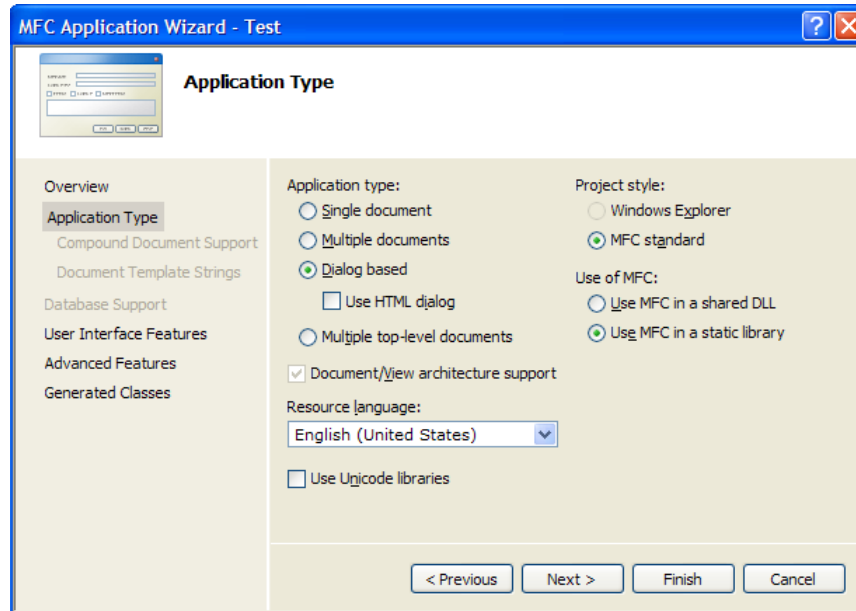

Figure 14. Visual Studio Wizard
1. Go to `Files>New>Project> Visual C++>MFC>MFC Application`. A window pops up, select the items as shown in Figure 14.